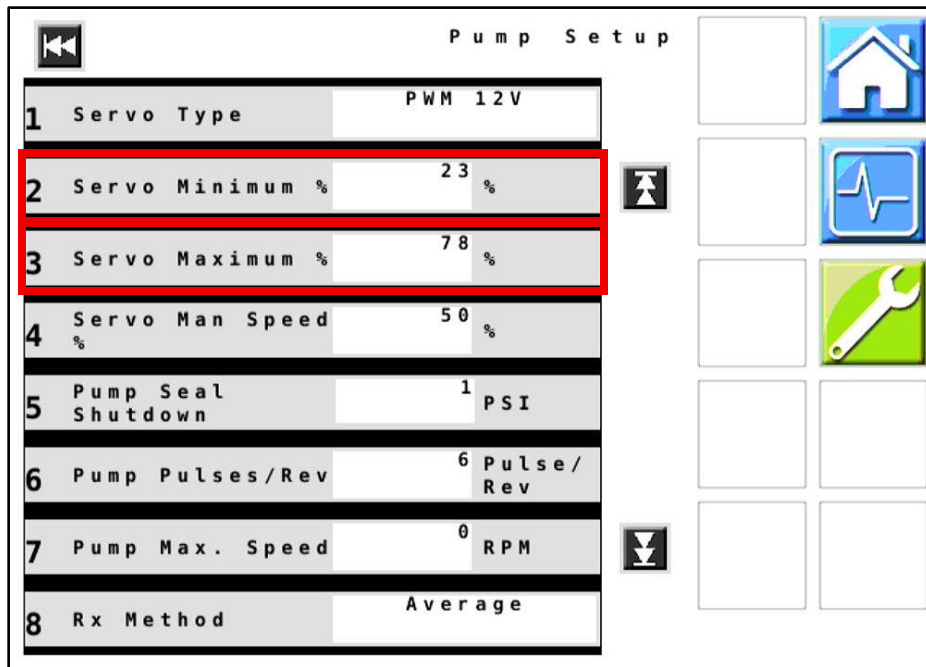

Figure 10 — Pump Setup – Page 1
25. **Figures 10 & 11:** Verify that all values displayed on your unit match those shown here. Change values if necessary.